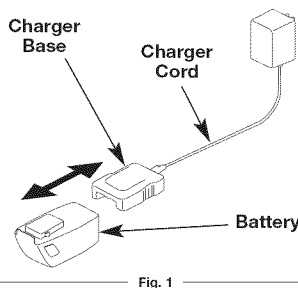

Fig. 1
- Plug the charger cord into the charger base (Fig. 1).
- Slide the charger onto the battery pack (Fig. 1). The LED will light up. Let the battery pack charge until the red LED turns off.
- Unplug the charger. Remove the charger by sliding it off (Fig. 1).